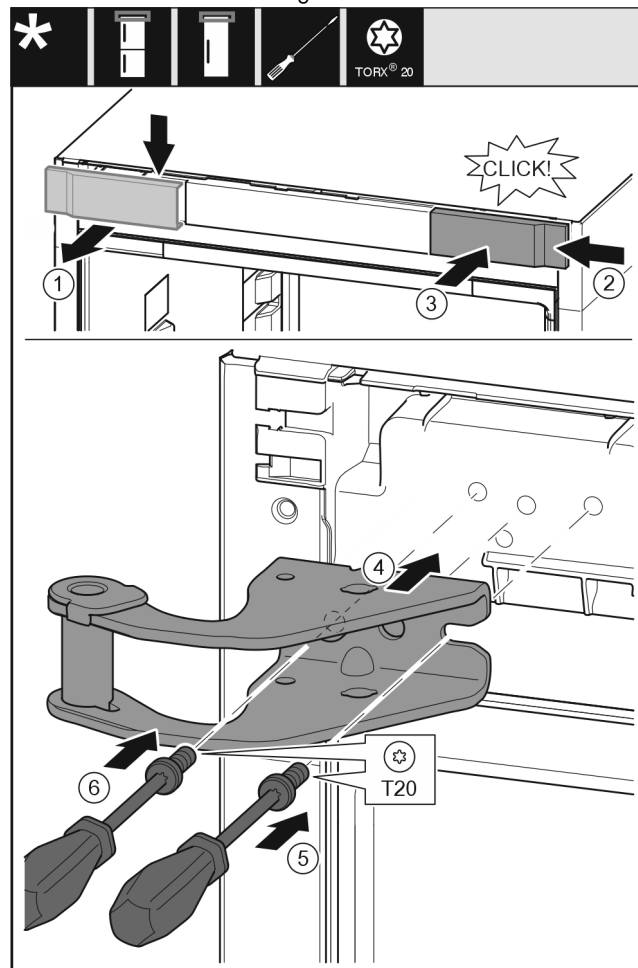

Fig. 14
- ▶ Take off the cover to the front from above. *Fig. 14 (1)*
- ▶ Rotate the cover 180° and clip onto the other side from the right. *Fig. 14 (2)*
- ▶ Latch the cover into place. *Fig. 14 (3)*
- ▶ Position the upper bearing bracket. *Fig. 14 (4)*
- ▶ Insert the screw with a T20 screwdriver and tighten it. *Fig. 14 (5)*
- ▶ Insert the screw with a T20 screwdriver and tighten it. *Fig. 14 (6)*